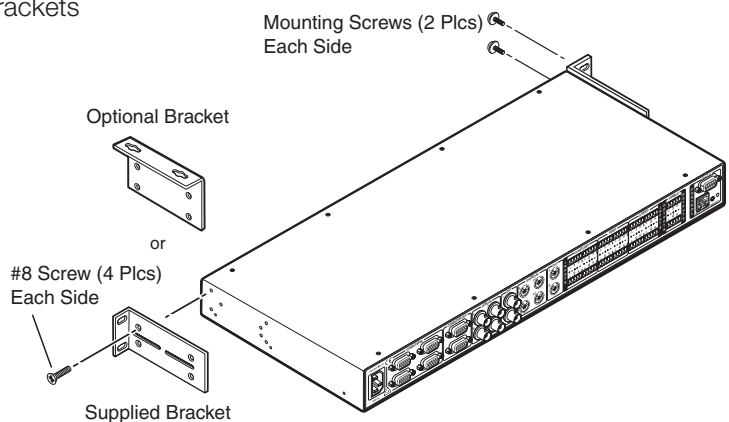

Figure 1. Mounting the Switcher
1. Secure the two table or wall mounting brackets included in the under-desk mounting kit to the switcher with the eight machine screws provided in the kit (see figure 1).